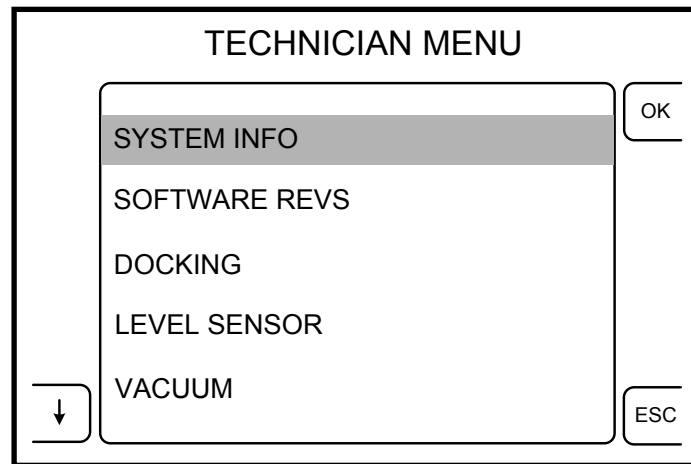

Figure 6: Technician Menu
3. From the technician menu, push the buttons next to the arrow icons (on the left side) to highlight the appropriate system setting (see figure 6).
4. Push the button next to the OK icon to select the appropriate technician menu option. Push the button next to the **ESC** icon to return to the system settings menu (see figure 6).